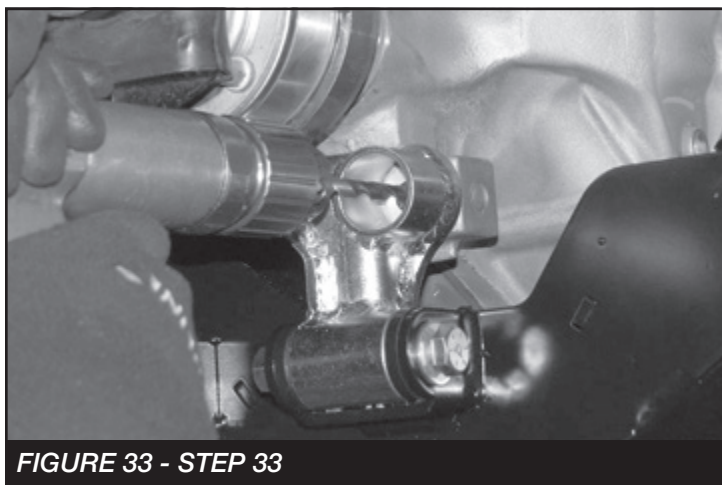

FIGURE 33 - STEP 33
33. Use the rear bracket as a drill guide to drill a 1/2" hole through the block on the rear of the diff. **SEE FIGURE 33**